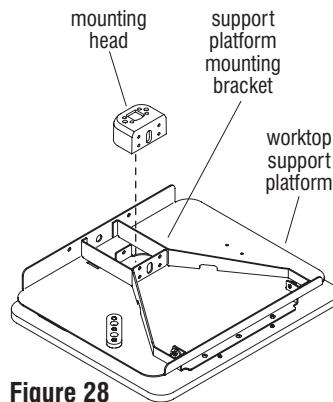

Figure 28
1. Carefully place the worktop support platform upside down on a soft, protective surface (Figure 28).
2. Orient the mounting head upside down and carefully lower the head into the rectangular opening of the support platform mounting bracket (Figure 28).